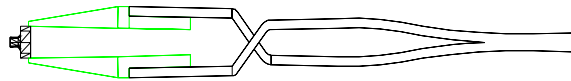

Figure 5-8: Holding the cell window for reinsertion into the manifold
- c. Lift the window with the tweezers. (Pick up the window near its back edge as shown in Figure 5-8.)